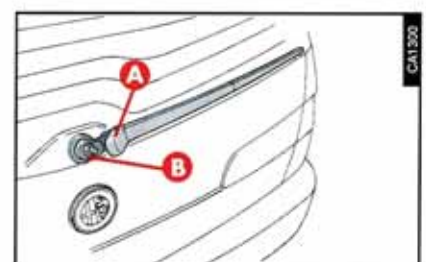

fig. 25
Rearscreen wiper blades (fig. 25)
- Raise the cover **(A-fig. 25)** and loosen the nut **(B)** fastening the arm.